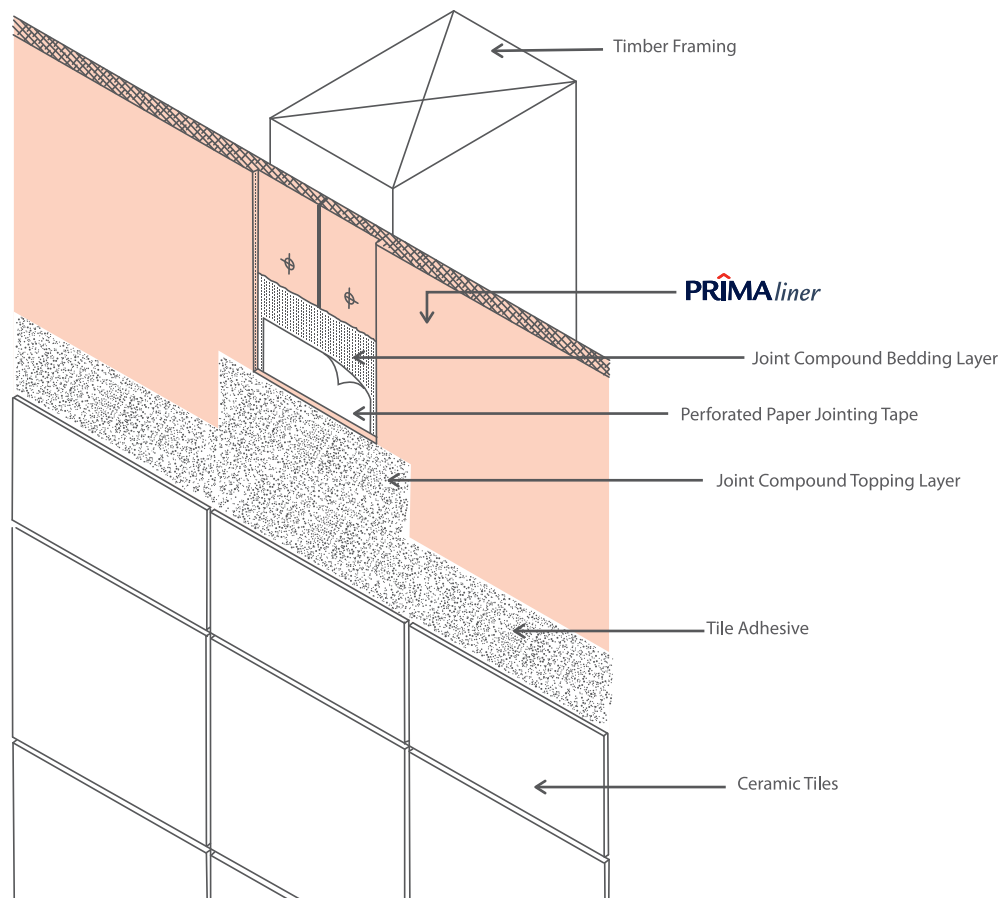

Figure13: Detail at Tiled Flush Joint
2. Flush Joints to be tiled should NOT be finished with a finishing coat of Joint Compound. Refer **Figure 13**.